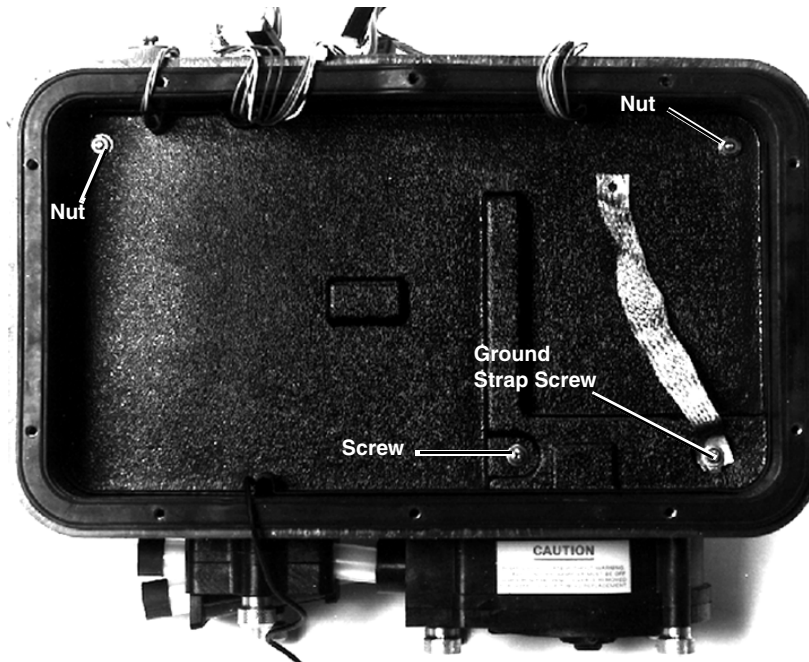

Figure 6-4 Control Box Tray Removal
2. Remove the two nuts, the screw, and the grounding strap (see Figure 6-4).